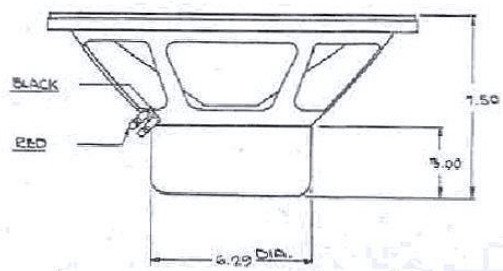

Fig. 1 — Dimensions
**MOUNTING THE SPEAKER** — Cut a circular hole 13½ inches in diameter. Four ¼-inch mounting holes are provided on the outer periphery of the speaker frame. Use four #12 x 1½ inch long wood screws, or preferably drill four ¼-inch holes on a 14⅞-inch circle spaced 90 degrees apart (See Fig. 1 for the hole arrangement), and employ four ⅜-inch carriage bolts 2 inches long with hex nuts and washers. Secure the speaker to the front baffle and tighten the retaining screws just enough to compress the speaker gasket. Do not tighten too much or the frame may be sprung out of line, thus damaging the speaker unit.